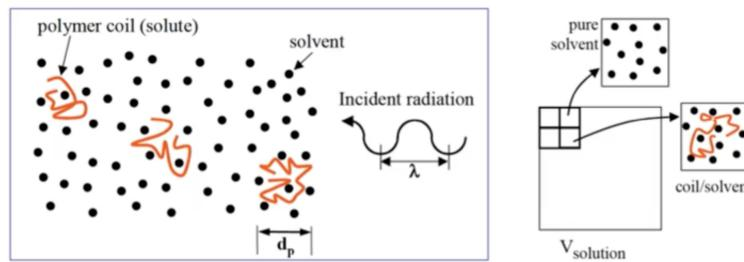

Figure 3.22: Fluctuations in concentration induce scattering.
- To quantify these changes in distribution, let's divide the volume of our solution into bins of volume  $\delta V$  as in Figure 3.22. Some of these bins will have pure solvent, and some will have bits of polymer.